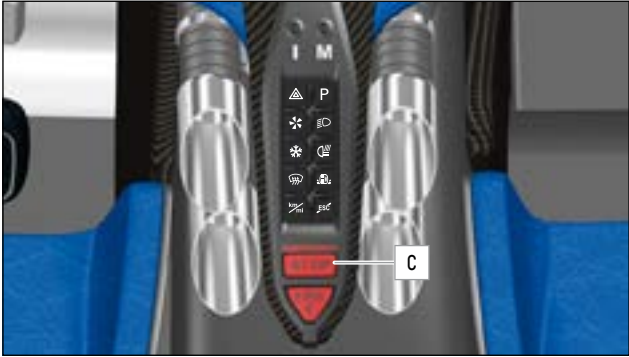

FIG.68 INTERNAL STOP BUTTON ON THE CENTRE CONSOLE
- ▶ To activate the emergency stop switch, press the STOP button **C** (» Fig.68).
- ▶ To re-activate it, press the same STOP button **C** (» Fig.68) again.